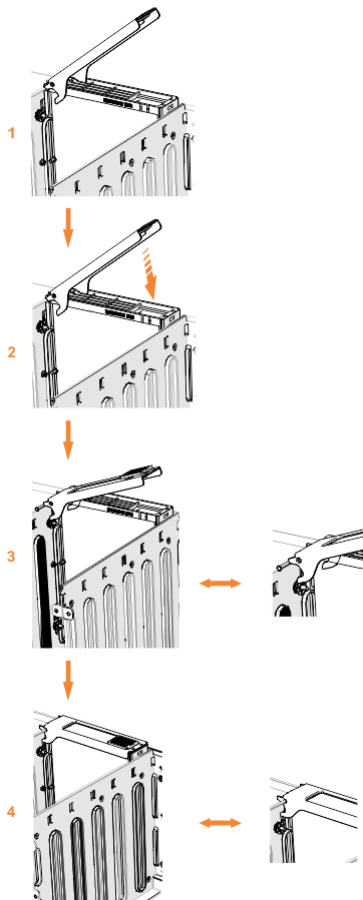

Figure 85. Replace the drive
5. Ensure that the drive handle (1 in Figure 85 on page 69) of the drive assembly is in the open (unlocked) position.
7. Gently push the drive down until it stops and the bottom of the latch is aligned with the top of the partition. Ensure that the handle is not open more than 45 degrees from the drive carrier. (2 in Figure 85 on page 69).
8. Rotate the handle down to lock the drive assembly into the chassis (3 in Figure 85 on page 69).
10. Ensure that the top toe of the latch is also fully engaged (4 in Figure 85 on page 69).